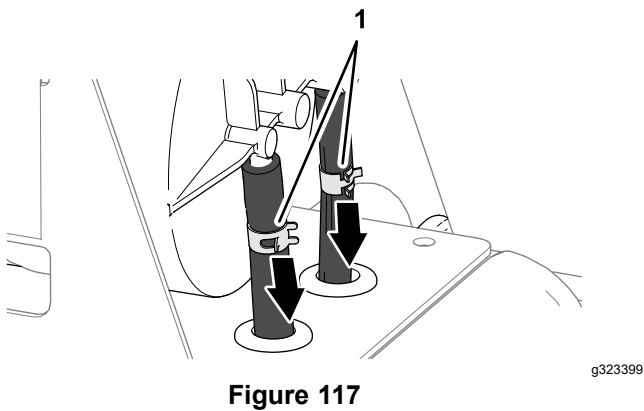

Figure 117
3. Loosen the 2 hose clamps that secure the hoses to the fittings of the carbon canister (Figure 117).